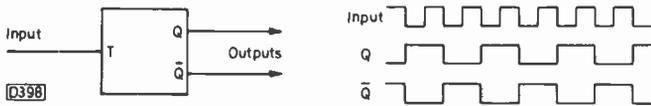

Fig. 34 (above): Toggle flip-flop.
**Toggle stat:** A form of *flip-flop*. It has one input and the usual Q and  $\bar{Q}$  outputs (see Fig. 34). The Q and  $\bar{Q}$  inputs change from 1 to 0 and 0 to 1 for each negative edge at the T input.